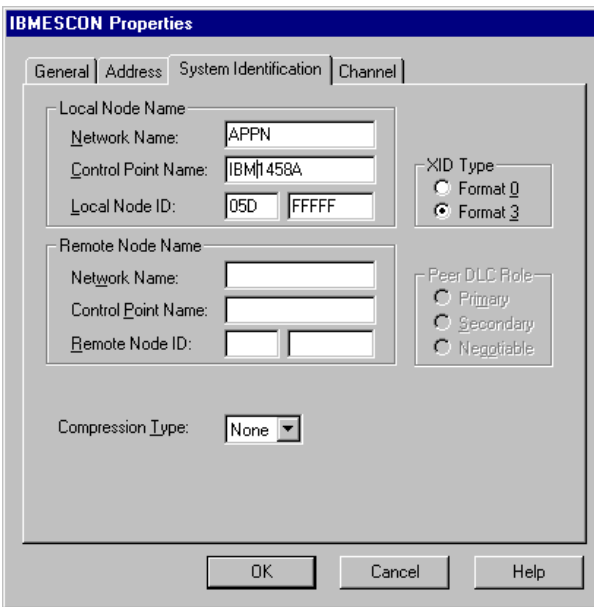

Figure 8-14. System Identification Dialog Box
5. Click on the **System Identification** tab (Figure 8-14).